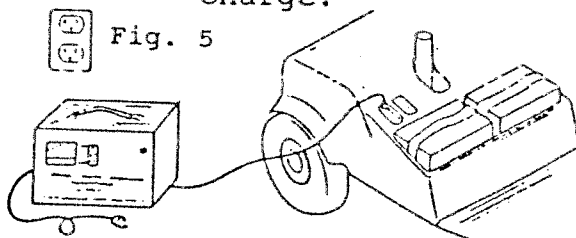

Fig. 5
2. Connect charger to power cell charging socket FIRST. (Fig. 5)